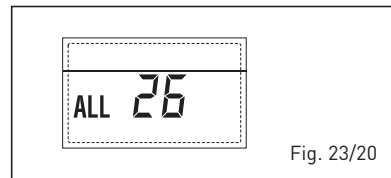

Fig. 23/20
**- ERROR SOLAR APPLICATION COMPATIBILITY "ALL 27" (fig. 23/21)**